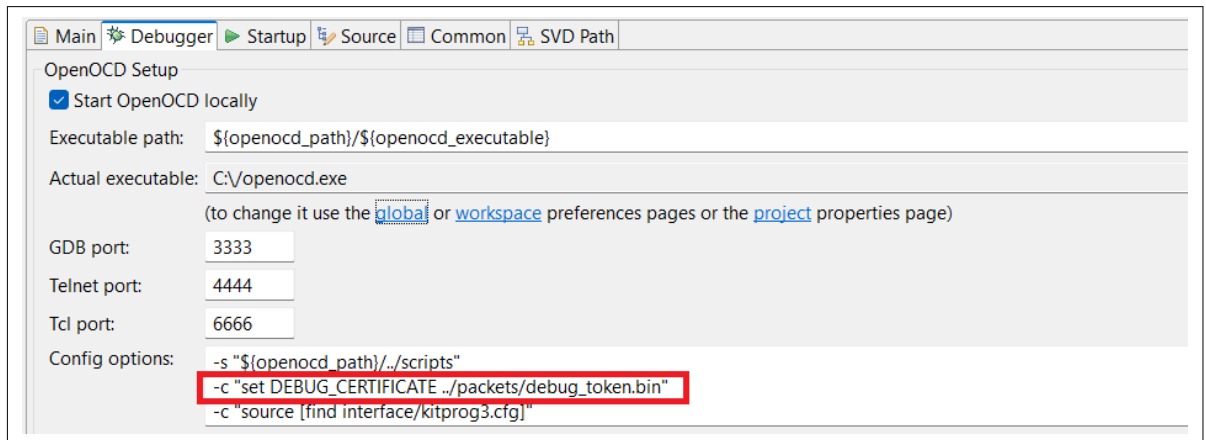

Figure 22 Debug certificate navigation in ModusToolbox™
6. Place the generated file in the ModusToolbox™ debug configuration (Go to **Project > Debug Configurations > Debugger**) as shown in Figure 22